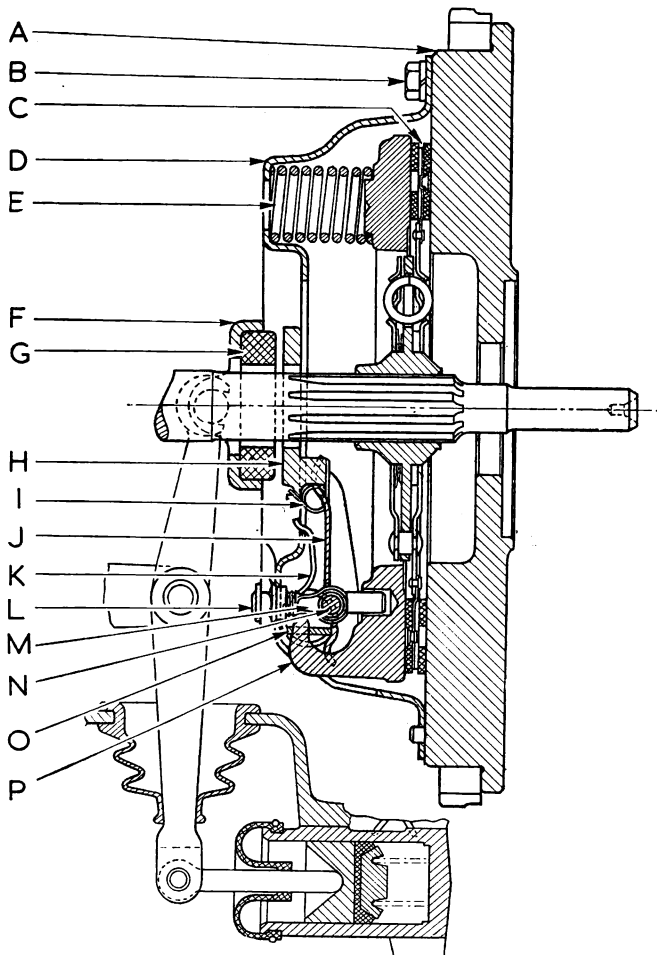

Fig. E.1
Each release lever is pivoted on a floating pin (N), which remains stationary in the lever and rolls across a short flat portion of the enlarged hole in the eyebolts (M) (see Fig. E.1). The outer ends of the eyebolts extend through holes in the clutch cover and are fitted with adjusting nuts (L) by means of which each lever is located in its correct position. The outer or shorter ends of the release levers engage the pressure plate lugs by means of struts (O) which provide knife-edge contact between the outer ends of the levers and the pressure plate lugs, eliminating friction at this point. Thus the pressure plate (P) is pulled away from the driven plate (C), compressing the six thrust coil springs (E) which are assembled between the pressure plate and the clutch cover (D).
Lay the cover over the parts, taking care that the anti-rattle springs are in position as shown in Fig. E.1 and that the springs are directly under the seats in the cover. Also make sure, if using the original parts, that